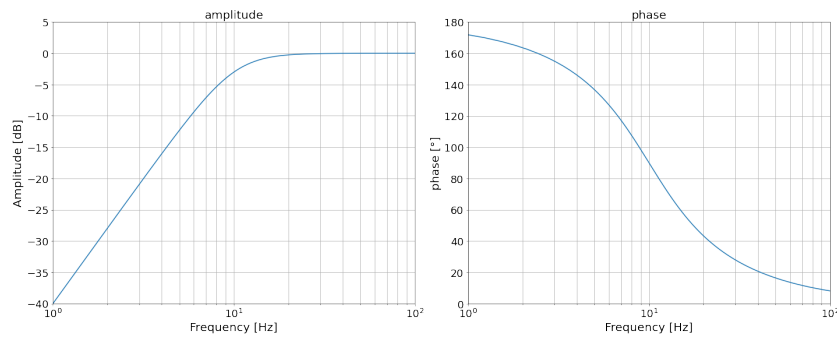

Figure 45: Bodeplot Butterworth highpass.
E.g.: Cut-off frequency is 10Hz. The bodeplot is shown in the figure 45 below.